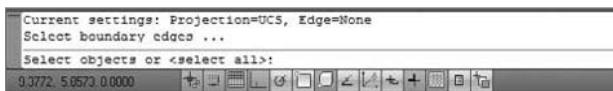

FIGURE 2.30 The command window while using the EXTEND command
2. Notice in the command window that the bottom line says `Select objects or <select all>`; but in this case you need to observe the bottom two lines of text in order to know that AutoCAD is prompting you to select boundary edges (see Figure 2.30).